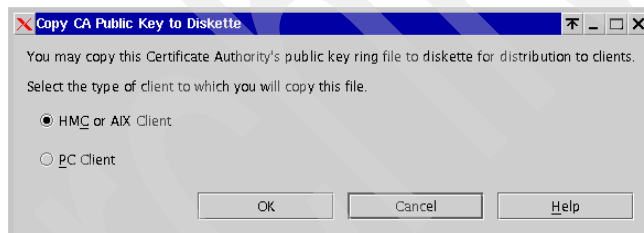

Figure 7-12 Copy CA Public Key to Diskette
3. The Copy CA Public Key to Diskette window shown in Figure 7-12 opens.
4. When you have inserted the diskette media, choose the appropriate selection in Figure 7-12, then click **OK**.